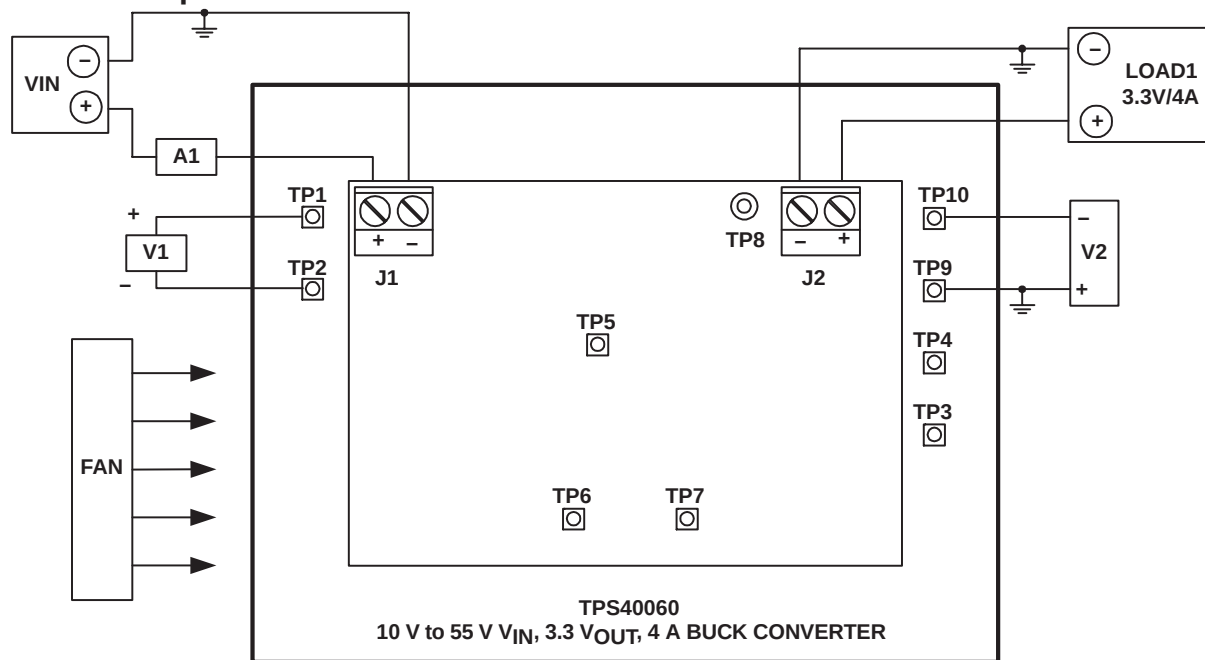

Figure 2. EVM Test Set-Up
Shown in Figure 2 is the basic test set up recommended to evaluate the TPS40060EVM. Please note that although the return for J1 is the same as the J2 return, the V_{IN} and LOAD1 connections should remain separate as shown below.
The input voltage source shall be a variable DC source capable of supplying between 0 V_{dc} and 55 V_{dc} at no less than 2 A_{dc}, and connected to J1 as shown in Figure 2. For fault protection to the EVM, good common practice is to limit the source current to no more than 2 A_{dc} for a 10 V to 55 V input. A DC ammeter, A1 should also be inserted between VIN and J1 as shown in Figure 2 for input current measurements. A DC voltmeter, V1 should be connected to TP1 and TP2 for V_{IN} measurements.
A network analyzer can be connected directly to TP3 and TP4 shown in Figure 2. The TPS40060EVM provides a 50 Ω resistor (R9) between the output and the voltage feedback to allow easy non-invasive measurement of the control to output loop response.
2. Prior to connecting the DC input source, VIN, it is advisable to limit the source current from VIN to 2-A maximum. Connect the ammeter A1 (0 A to 2 A range) between VIN and J1 as shown in Figure 2. Make sure VIN is initially set to 0 V.
3. Connect LOAD1 to J2 as shown in Figure 2. Set LOAD1 to constant current mode to sink 0 Adc before VIN is applied.
4. Connect the voltmeter, V2 to TP9 and TP10 as shown in Figure 2.